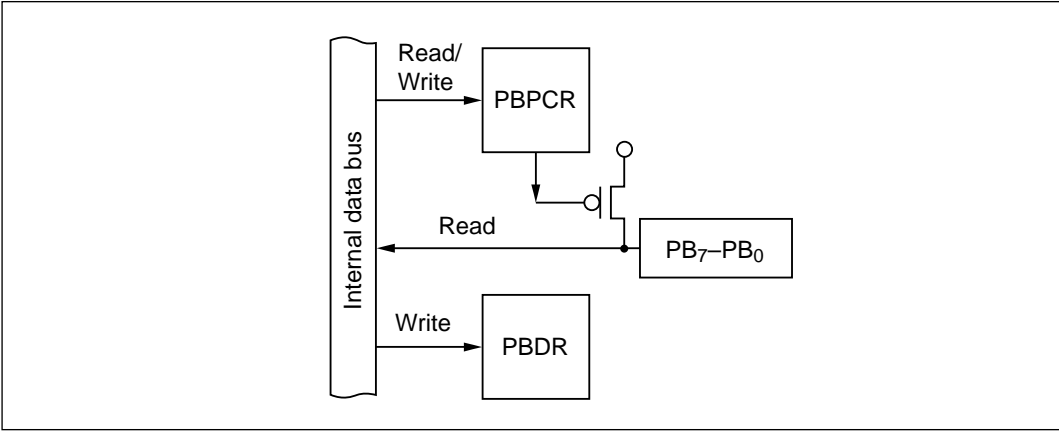

Figure 9-74 Input Port with Built-In Pull-Up Transistors (Mode 7)
(2) **Input Port with Internal Pull-Up (All Pins: Mode 7):** Figure 9-74 shows a block diagram illustrating the general-purpose input function and built-in input pull-up transistors. Table 9-54 indicates register read/write data. Values written in the port B data register (PBDR) have no effect on general-purpose input lines. When read, PBDR returns the value at the pin. When a bit in the port B pull-up transistor control register (PBPCR) is set to 1, the corresponding PBDR bit always reads 1.